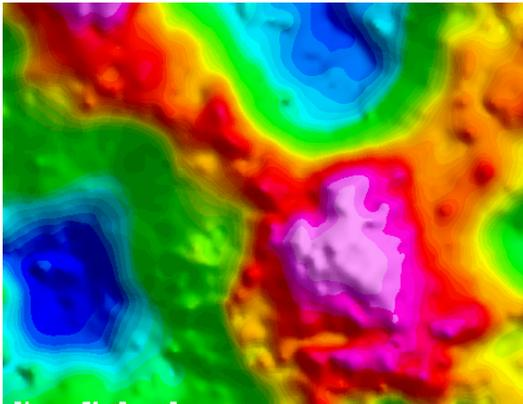
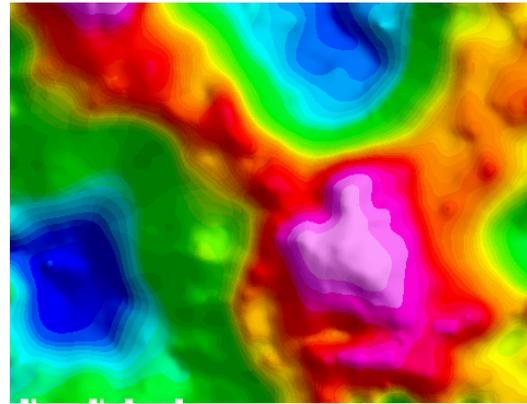

Figure 1. Standard Bouguer gravity grid (500m cell size) of GSV data
Figure 2. Bouguer gravity grid (500m cell size) of "microlevelled" gravity.
Grids created from randomly sampled gravity data can have a 'lumpy' appearance in the final grid (see Figure 1). This artefact can then be exaggerated after data enhancements, such as FFT vertical derivative filtering. The cause of the 'lumps' around individual sample points is due to a combination of sparse sampling and acquisition errors.
The Geological Survey of Victoria provided the gravity data used in this technical note. Note that, although this data is of good quality some artefacts are still visible in the Bouguer grid (Figure 1) but have been minimized in the microlevelled grid (Figure 2).
- 8 Grid the "Bouguer_Microlev" channel to view your results (See Figure 2).
Figures 1 and 3 show the standard Bouguer gravity and it's vertical derivative showing how individual points often have high frequency anomalies associated with them.
The "microlevelling" process as shown in Figures 2 and 4 seems to have retained the geological integrity of the grid while removing much of the high frequency noise as well as enhancing the definition of structural edges on the vertical derivative image.